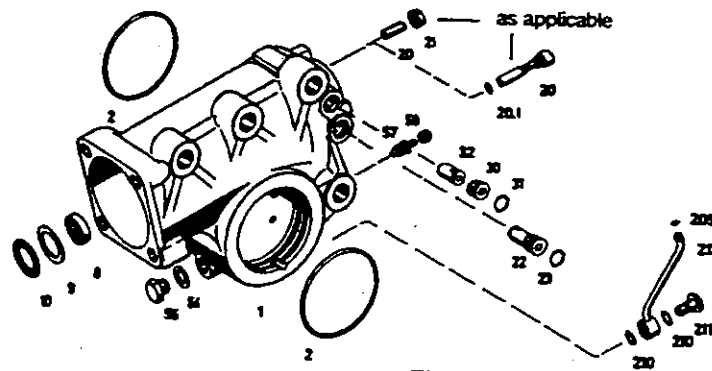

Fig.18
10.1 Remove needle cage (10), washer (9) and shaft seal (8) from housing (1) (Fig.18).